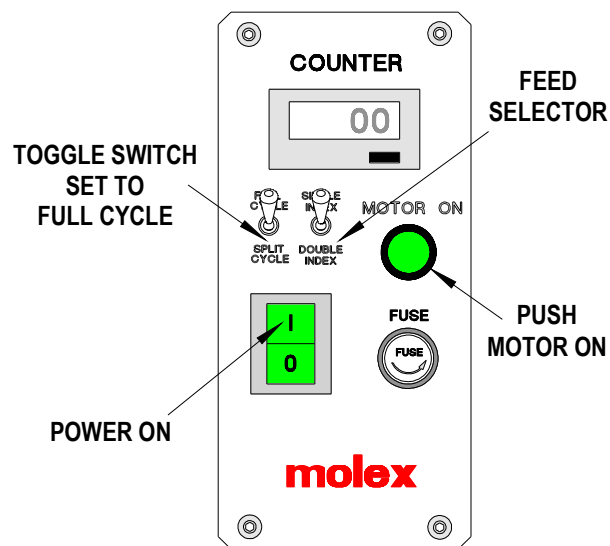

Figure 3-5
**Note:** When using the 64016-2000 Crimp Module, set the feed selector on the control panel to “SINGLE” or “DOUBLE”, depending on the spacing of the taped terminals. See Figure 3-5.
1. Set the toggle switch on the control panel to "Full Cycle". See Figure 3-5.
The split cycle is used only for closed barrel terminals, and helps to locate the terminal before crimping the wire. The ram will close partially to assist in locating the terminal for the termination. With the terminal located the wire can be placed into the terminal and terminated. To setup the machine for split cycle push the toggle switch on the control panel to "Split Cycle". See Figure 3-5.